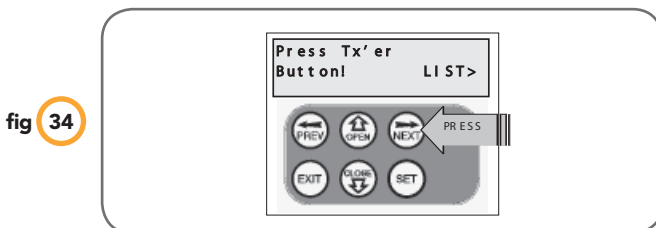

fig 34
3. Press NEXT to enter transmitter list and edit mode (Fig. 34). Used if the transmitter is not available.